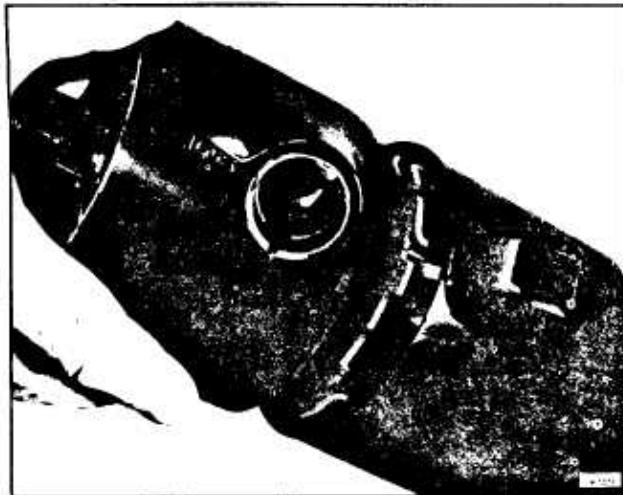

Figure 74—Removing Upper Housing Assembly
15. Remove the four screws attaching the upper housing to the jacket. Remove the upper housing assembly. (figure 74).